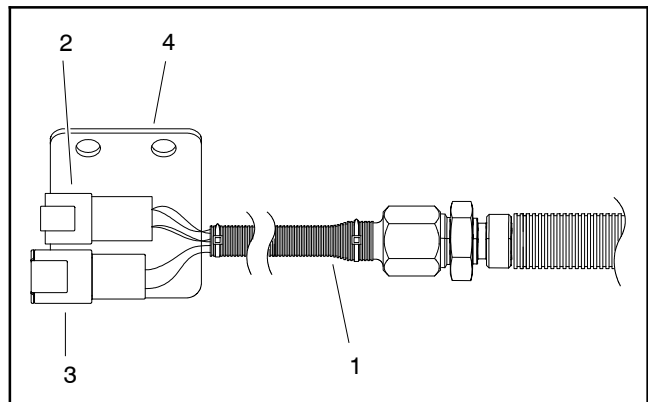

Figure 68
4. Carefully disconnect two (2) reel motor cable connectors from machine wire harness (Fig. 68).